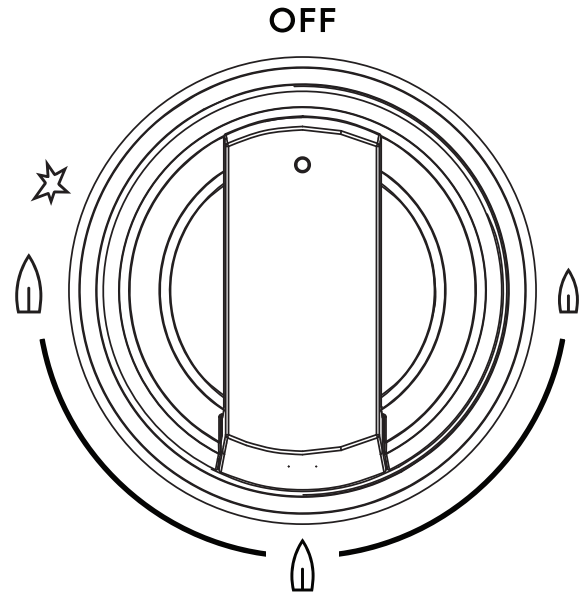

Figura 9: Surface control knob
2. Push the burner's surface control knob in and turn counterclockwise out of the OFF position (Figura 9).